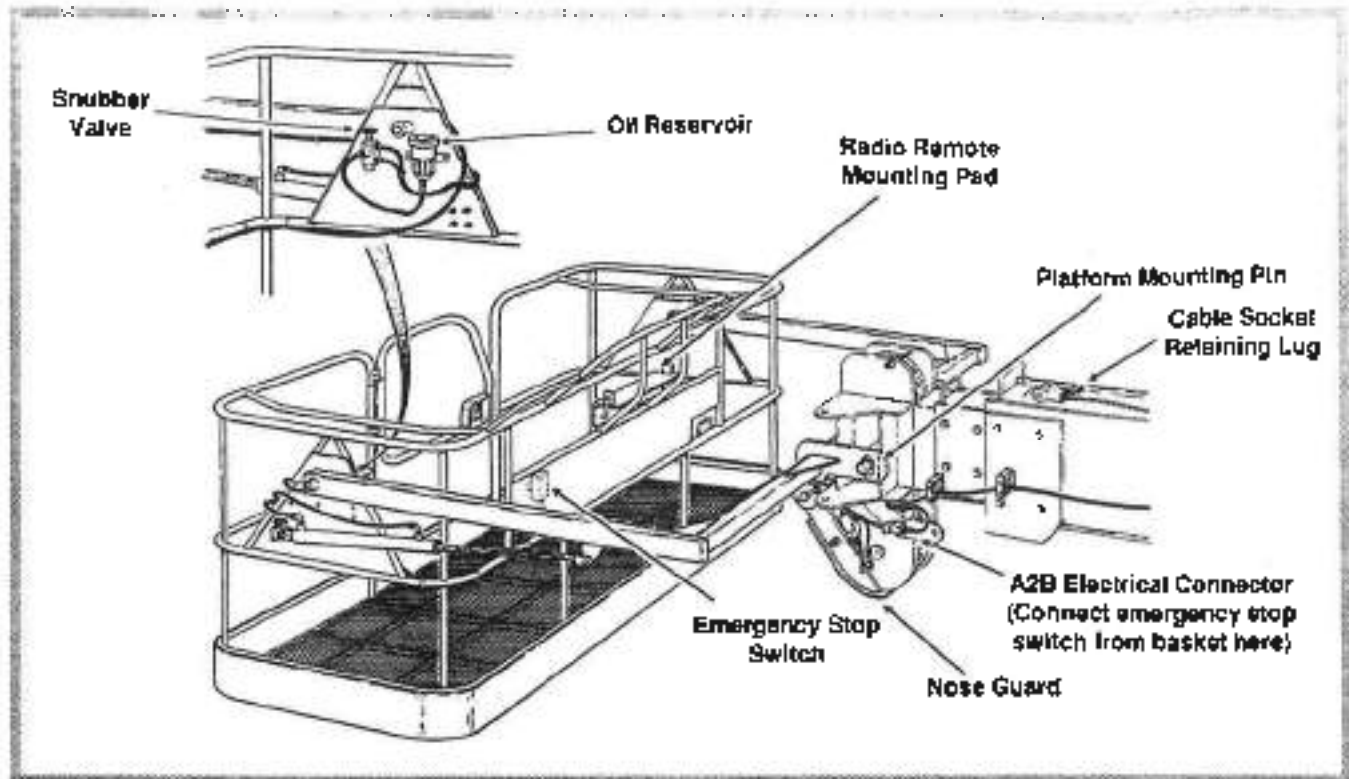

Figure 3-10. Personnel Platform and Support Installation. (Gravity Basket)
(OPTION) (See Figure 3-10.)
(See Figure 3-10.)
4. Attach cable socket assembly to lug on top of base boom and secure with clevis pin. (See Figure 3-10.)
7. Align nose guard plate mounting holes and fly boom cable retaining pin holes and secure plate with pins and hardware provided. (See Figure 3-10.)